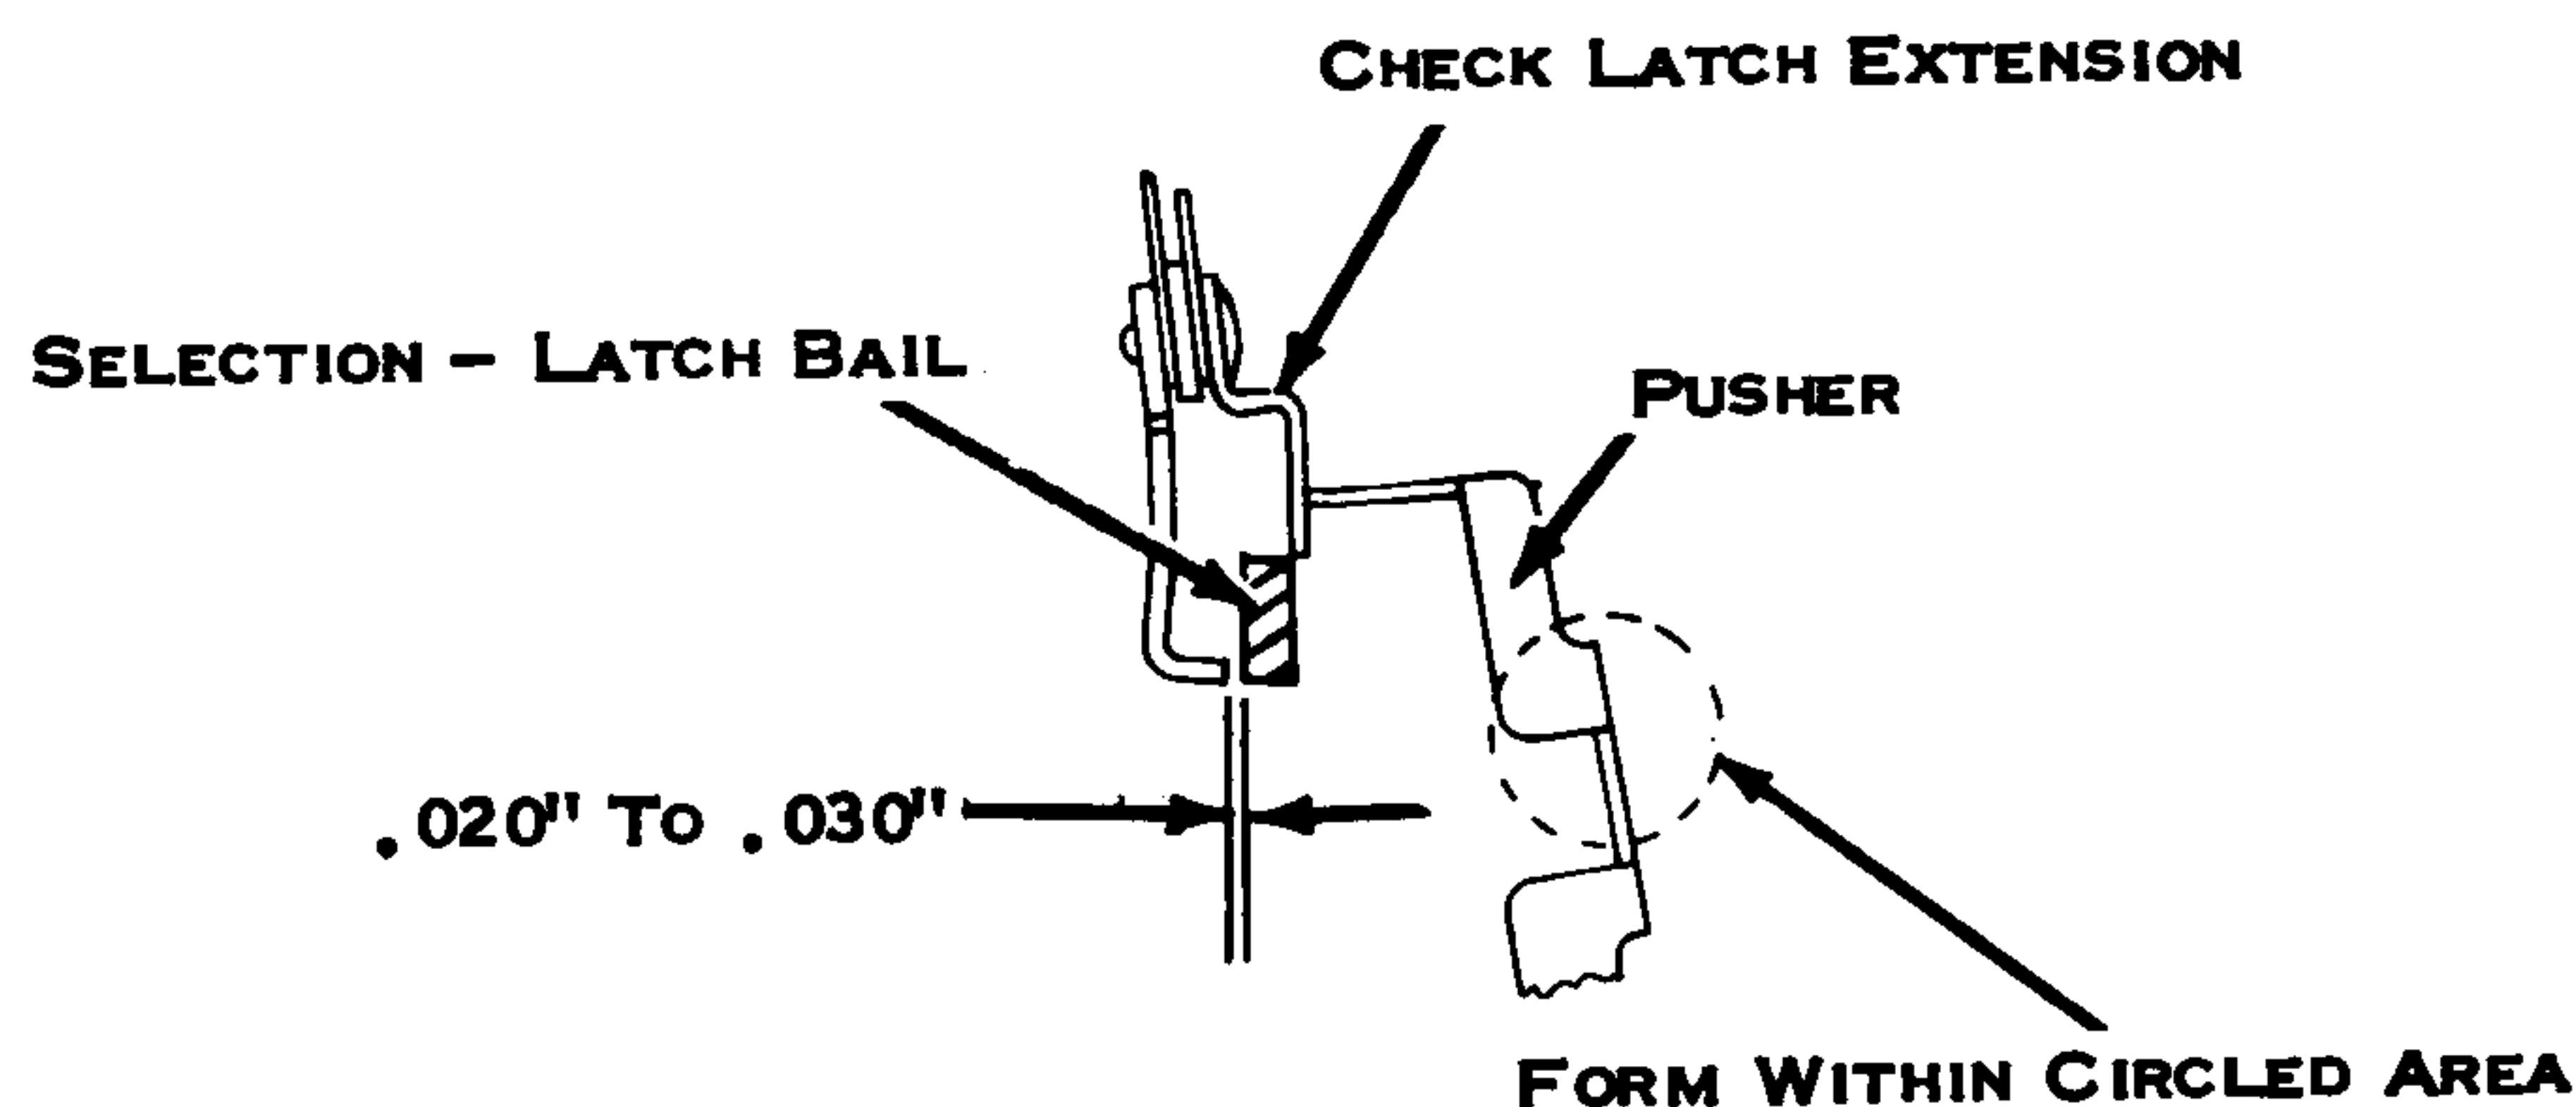

Figure 19. Check Latch Pusher
4. Check Latch Pusher (Fig. 19) - Form so that the check latch clears the selection bail by .020" to .030". This clearance must be observed with the selection bail lowered slightly.